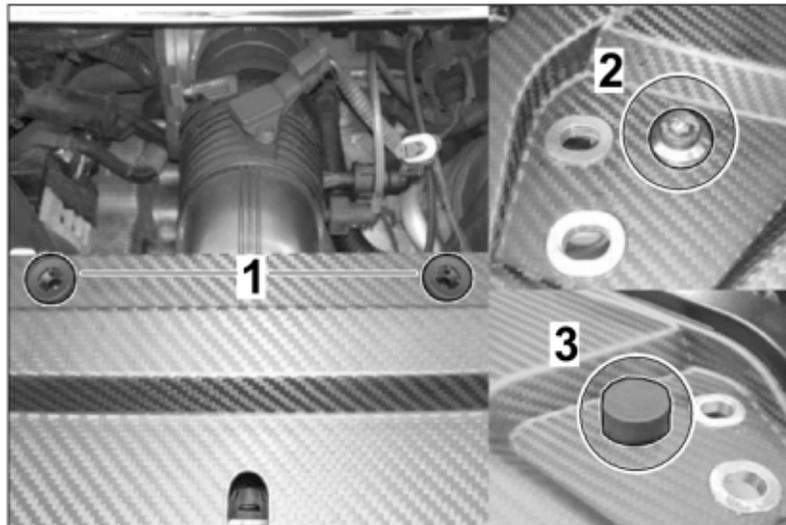

Figure 60
- 27. – Mount rubber stopper ⇒ *Figure 60 -1-* (engine compartment flushing fan mount) in the mounting bracket.
29. – Install caps ⇒ *Figure 60 -3-*.